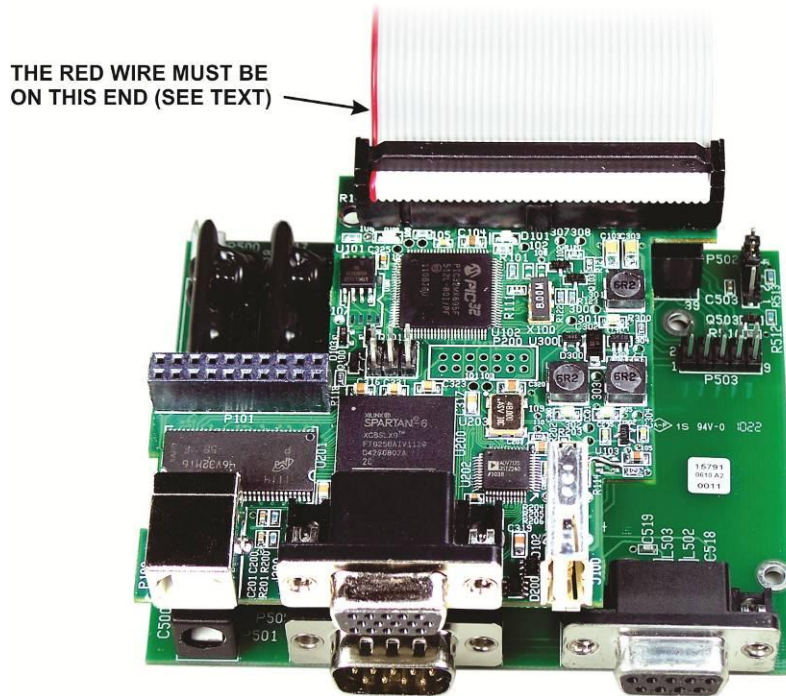

Figure 7. Connecting the Ribbon Cable to the P3SVGA and I/O Boards.
□ Connect the ribbon cable to the P102 on the P3SVGA board as shown in Figure 7. Place the boards on a firm surface to avoid over-stressing them. **Be certain that:**